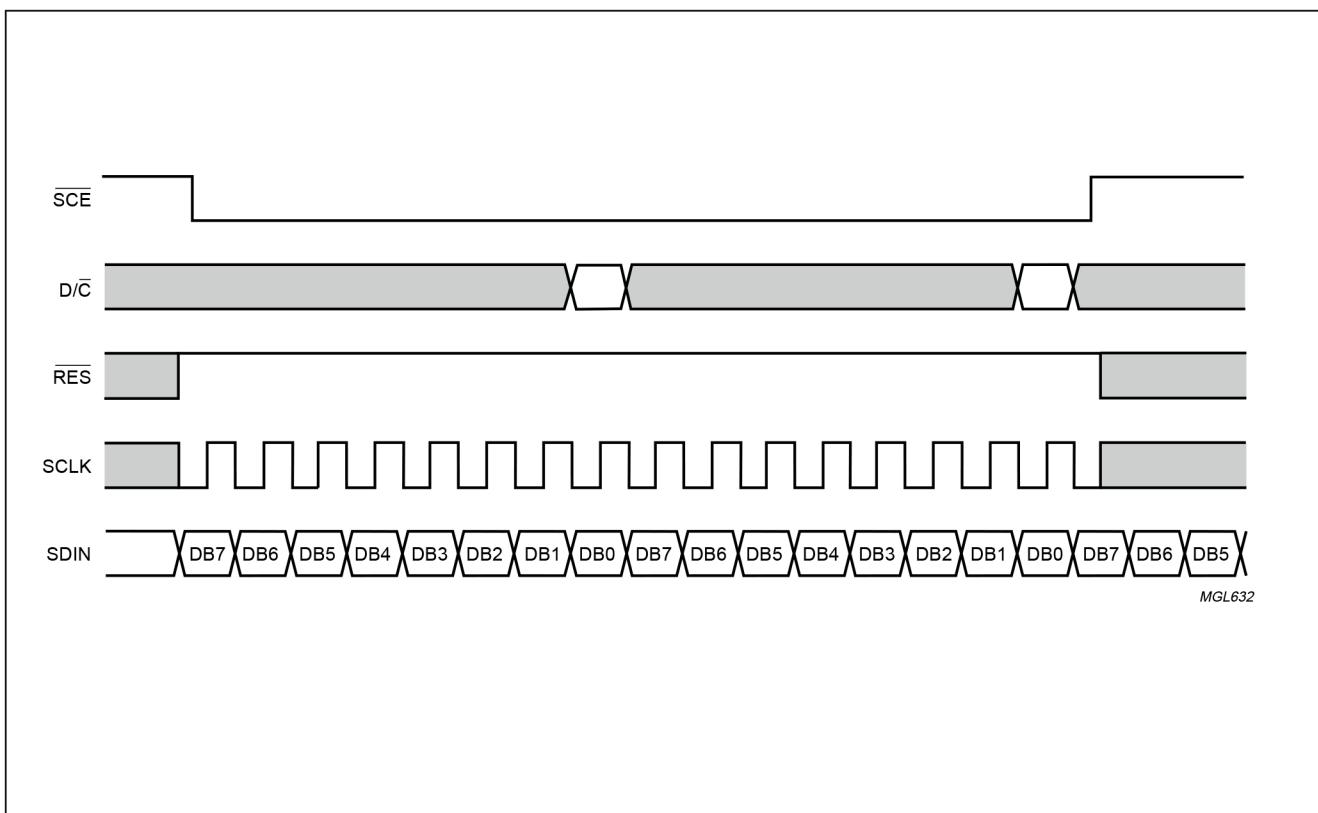

Figure 12 Serial bus reset function (SCE).
- When $\overline{\text{SCE}}$ is HIGH, SCLK clock signals are ignored; during the HIGH time of $\overline{\text{SCE}}$, the serial interface is initialized (see Fig.12)
- If $\overline{\text{SCE}}$ stays LOW after the last bit of a command/data byte, the serial interface expects bit 7 of the next byte at the next positive edge of SCLK (see Fig.12)